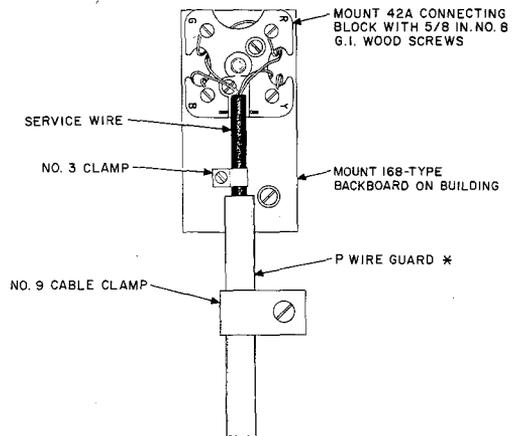

Fig. 36—Service Wire on 42A Connecting Block (Prepared for Unexposed Stations)
11.07 Where a protector is not required, a service wire can be terminated on a 42A connecting block mounted on a 168-type backboard as shown in Fig. 36. This termination method is used only at unexposed stations.